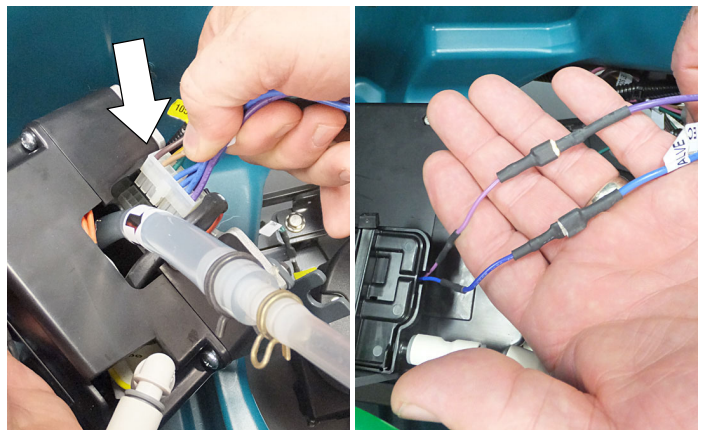

Fig. 4
4. Connect the module connector to the ec-H2O module and the blue and purple wires to the water conditioning pump (Figure 4).